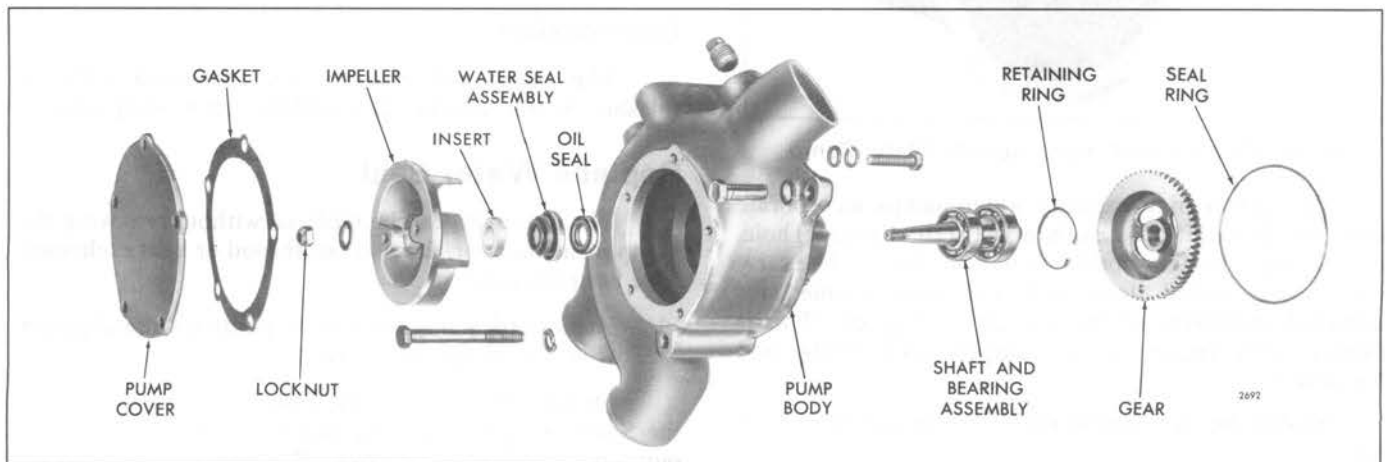

Fig. 2 - Former Water Pump Details and Relative Location of Parts
A bronze impeller is secured to one end of a stainless steel shaft by a locknut. The water pump gear is pressed on the opposite end of the shaft. Two ball bearings are used to carry the shaft. The larger bearing is used at the drive gear end of the shaft to accommodate the thrust load (Fig. 2 or 3).
1. Remove the pump cover bolts, pump cover and gasket (Fig. 2). Discard the gasket.
- d. Place the impeller assembly in a *level* position, with the ceramic insert up, in an oven preheated to 350°F (177°C) for one (1) hour to cure the adhesive.
7. Make sure the mating surfaces of the water seal and the ceramic insert are free of dirt, metal particles and oil film (Fig. 2).